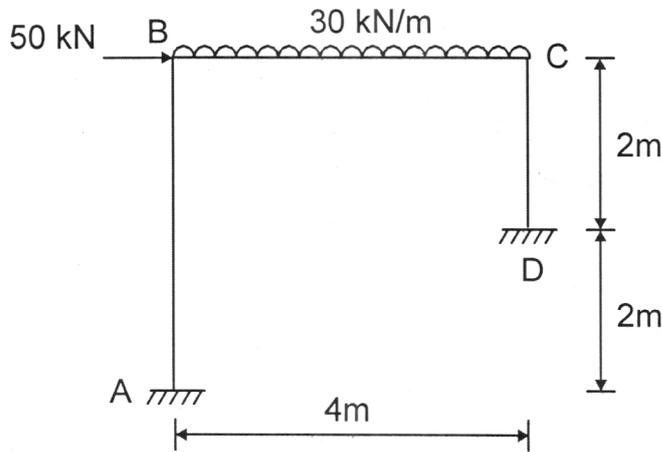

Fig. 5
5. Analyse the portal frame ABCD shown in fig. 5 by flexibility method EI constant throughout. 20